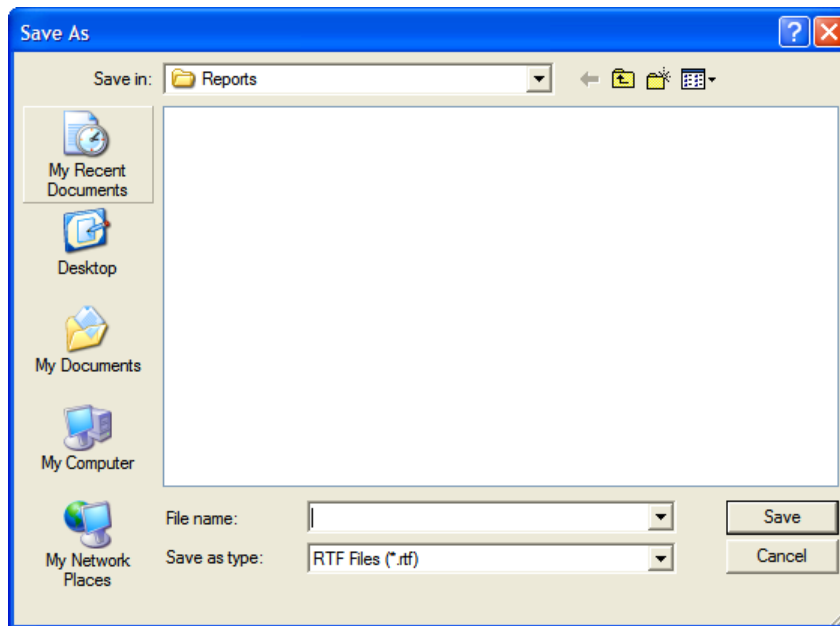

Figure 9-34
8. To save the displayed report or summary, click the **Save to File** button or press **Alt+S**. The Save As box appears as shown in Figure 9-34. Reports are saved as an RTF file in the Reports folder by default.